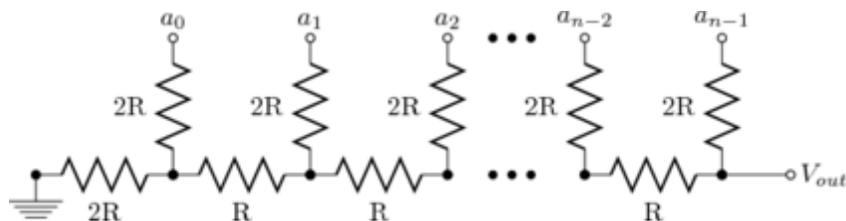

Figure 6.2. An n -bit $R-2R$ resistor ladder.
2. An $R-2R$ ladder as shown in Figure 6.2.